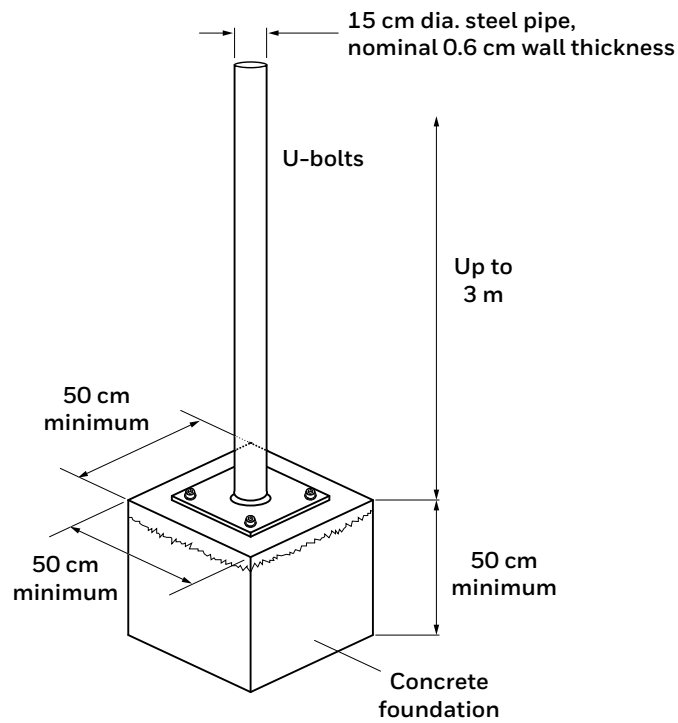

Figure 5. Steel pipe supporting structure
3. Attach the assembled Universal Mounting Bracket (or Mount Plate Adaptor for Universal Mounting Bracket) to the pole. Align the bracket flange V-groove with the pole for a good fit. Fix the bracket with two U-bolts and four nuts with washers. Alternatively, fix the bracket using the Worm Drive Clips (Figure 5).